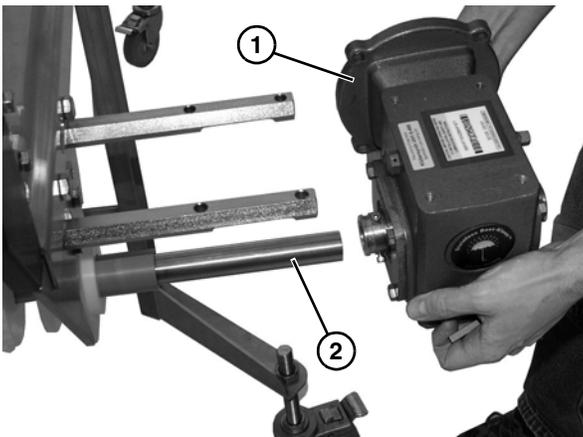

Figure 6
3. Slide the gearmotor assembly (Figure 6, item 1) onto the drive spindle (Figure 6, item 2).